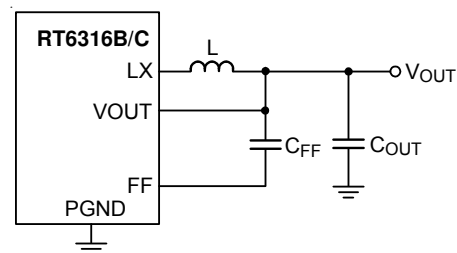
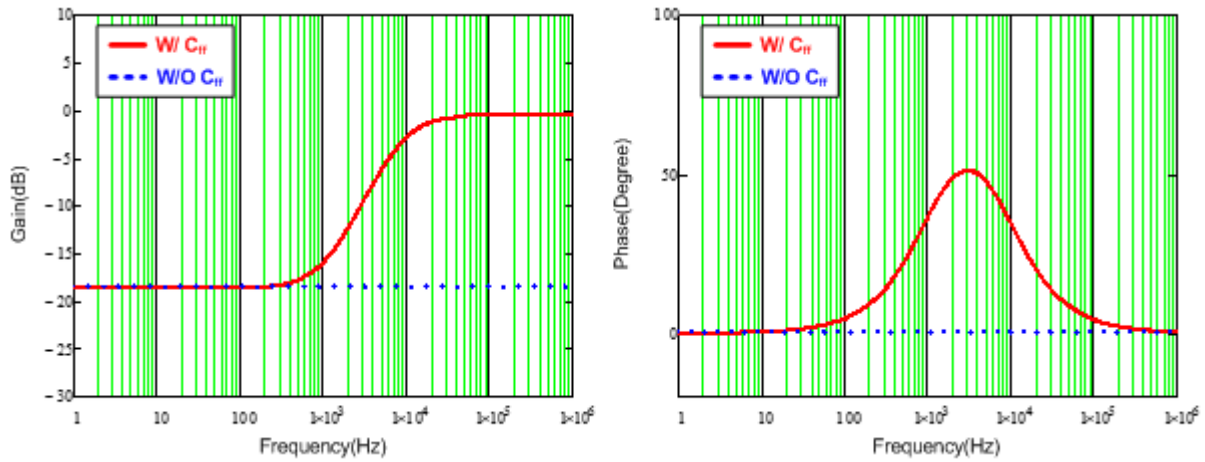

Figure 4. Feedback Loop with Feedforward Capacitor
Figure 5. Bode Plot with Different Feedback Loop Conditions
For saving time to design compensator and reducing the layout area through external components, the components of compensator are integrated in IC. However, this integrated compensator might not suit to every load transient spec. Hence, for the RT6316B/C to be more adaptable, the feedforward capacitor C_{FF} is used in the feedback loop to improve transient response, as shown in Figure 4. Figure 5 shows the comparison result of bode plot with different feedback loop conditions. Referring to Figure 5, through connecting a C_{FF} in feedback network, the gain and phase are raised in mid-frequency that not only can extend the bandwidth, but boost the phase margin as well. Moreover, there is also a high frequency pole to eliminate high frequency noise. Consequently, those features of feedforward feedback network allow the RT6316B/C have faster response to handle different load transient.
Observing Figure 5, the maximum phase boost occurs between zero and pole frequencies that is defined as maximum phase boost frequency, as expressed in equation (4). Hence, in order to achieve the maximum phase boost by adding C_{FF} in the RT6316B/C, the system's original bandwidth has to be located at maximum phase boost frequency.